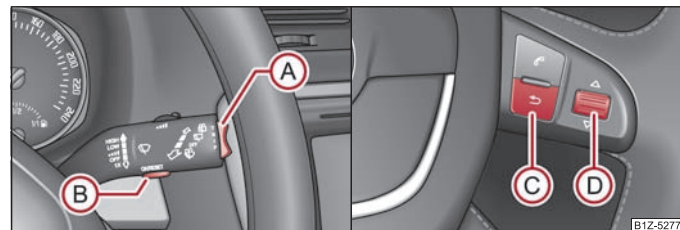

Fig. 19 Multi-functional indicator: Controls on the windshield wiper lever/controls on the multifunction steering wheel
Switching over the memory with the help of the button **(B)** ⇒ fig. 19 on the windshield wiper lever or with the help of the button **(D)** on the ⇒ fig. 19 multifunction steering wheel.
The rocker switch **(A)** and the button **(B)** are located on the windshield wiper lever ⇒ page 19, fig. 19. Switching over and resetting is performed with the handwheel **(D)** on the multifunction steering wheel.
If the outside temperature drops below +4 °C, a snow flake symbol (warning signal for ice on the road) appears before the temperature indicator and a warning signal sounds. After pressing the rocker switch **(A)** at the windshield wiper lever ⇒ page 19, fig. 19 or the button **(C)** at the multifunction steering wheel ⇒ page 19, fig. 19, the function shown last is indicated.
The driving time which has elapsed since the memory was last erased, appears in the display. If you wish to measure the driving time as of a particular time, you must set the memory to zero at this moment in time by pressing the button **(B)** on the windshield wiper lever ⇒ page 19, fig. 19 or the handwheel **(D)** on the ⇒ page 19, fig. 19 multifunction steering wheel for longer than 1 second.
If you wish to determine the average fuel consumption over a certain period of time you must set the memory to zero at the start of the measurement using the button **(B)** on the windshield wiper lever ⇒ page 19, fig. 19 or with the handwheel **(D)** on the multifunction steering wheel ⇒ page 19, fig. 19. A zero appears in the display for the first 100 m you drive after erasing the memory.
The distance driven since the memory was last erased appears in the display ⇒ page 19. If you wish to measure the distance driven of a particular time, you must set the memory to zero at this moment in time by pressing the button **(B)** on the windshield wiper lever ⇒ page 19, fig. 19 or the handwheel **(D)** on the multifunction steering wheel ⇒ page 19, fig. 19.
The average speed since the memory was last erased is shown in the display in km/hour ⇒ page 19. If you wish to determine the average vehicle speed over a certain period of time you must set the memory to zero at the start of the measurement using the button **(B)** on the windshield wiper lever ⇒ page 19, fig. 19 or with the handwheel **(D)** on the multifunction steering wheel ⇒ page 19, fig. 19.
- With the **(A)** button on the multi-function steering wheel ⇒ page 19, fig. 19 or the handwheel **(D)** on the multi-function steering wheel ⇒ page 19, fig. 19, choose the menu point **Warning against excessive speeds**.